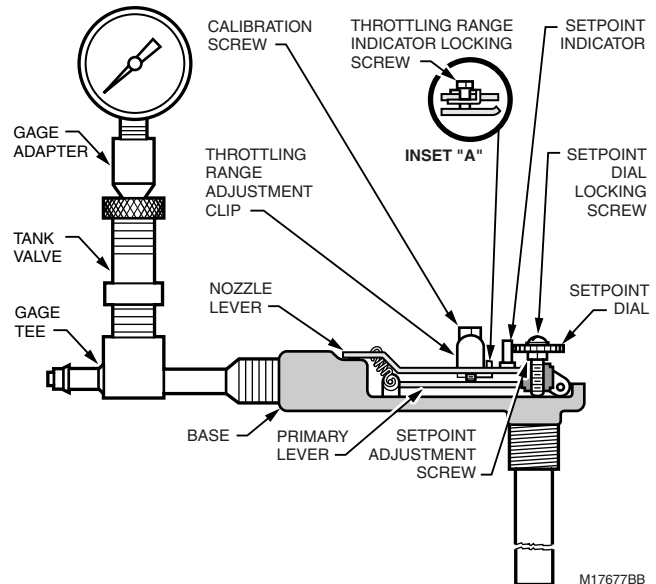

Fig. 8. LP907A Adjustments.
Use lubricant sparingly and keep it away from the air nozzle (see Fig. 8).
Refer to Fig. 8 and the Maintenance section.
1. Loosen the throttling range indicator locking screw with the thermostat key. See Fig. 8.